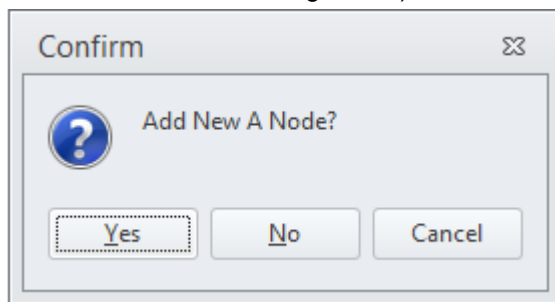

Figure 83 New railroad
- 9) The window in Figure 83 will appear if a new node is added (i.e. if the link does not start and end in existing nodes):